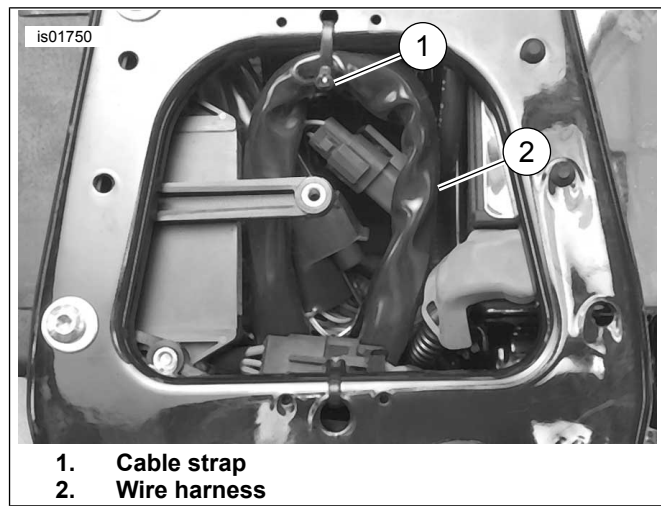
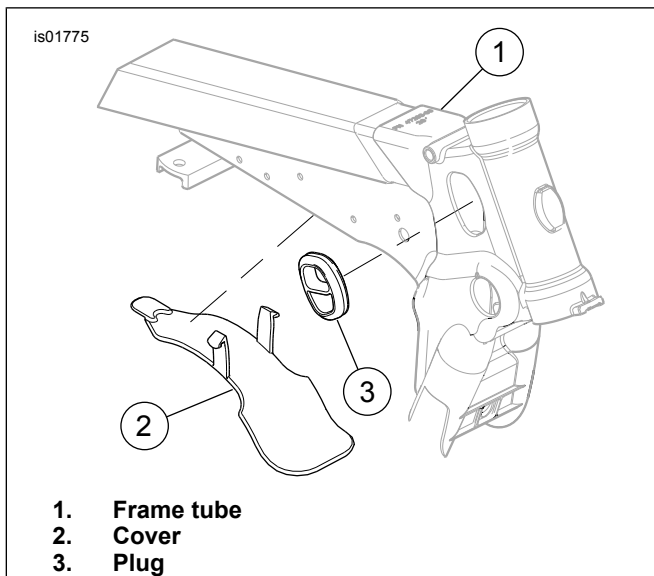

Figure 3. Dyna Service Loop (2005-Earlier)
Figure 5. Dyna Top Frame Tube (2006-Later)
4. *2005-Earlier FXDWG:* See Figures 3 and 4. Remove plug on right side of top frame tube. At service loop, remove cable clip and push wire harness into top frame tube. Pull connector out from hole on right side of tube. *2006-Later FXD:* See Figure 5. Remove cover under top frame tube, then pull connector out from opening under tube.